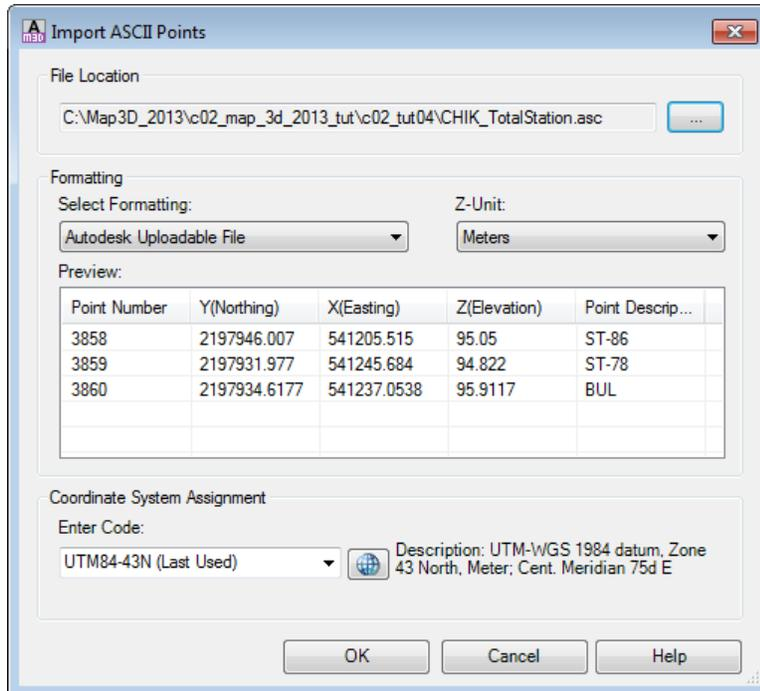

Figure 2-34 The **Import ASCII Points** dialog box displaying the preview of the selected data
- Next, choose the **OK** button; the **Import ASCII File** dialog box is closed. The path of the selected file is displayed in the edit box in the **File Location** area of the **Import ASCII Points** dialog box. Also, the preview of the selected data is displayed in the **Preview** area, as shown in Figure 2-34.